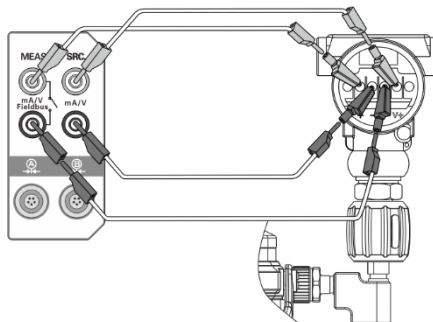

Figure 24 Calibration of a 4-wire pressure transmitter
- ◆ For 4-wire pressure transmitter, connect as shown in Figure 24.